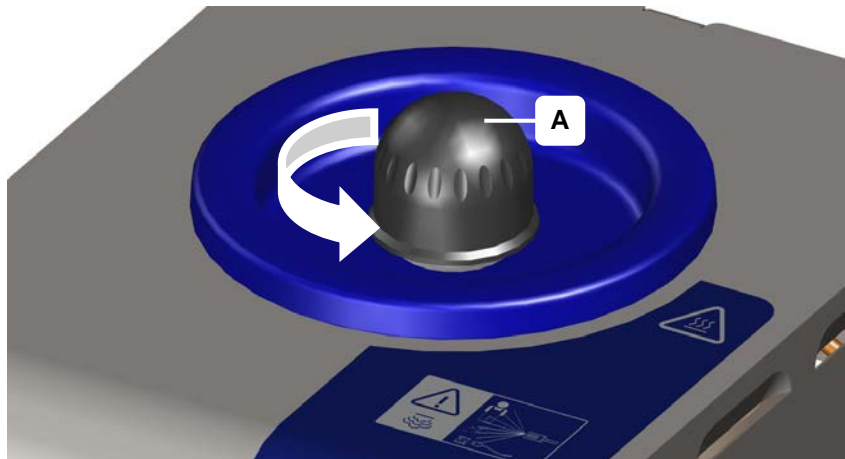

Figure 6.2.1: Opening/closing the pressure vessel
2. Slowly open the pressure tank screw cap (Figure 6.2.1 Device fill).